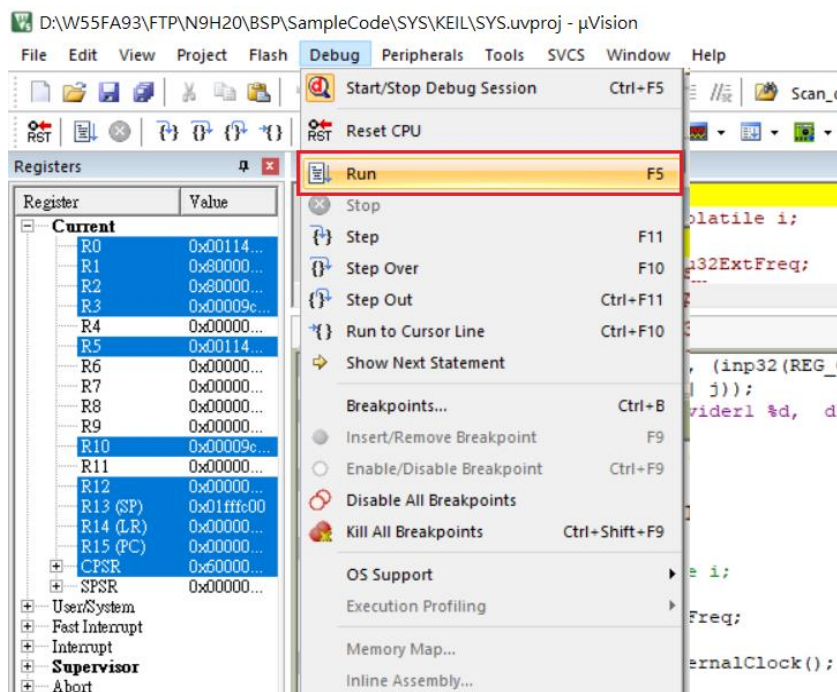

Figure 2-8 Free Run
1. Free Run the application program as shown in Figure 2-8.